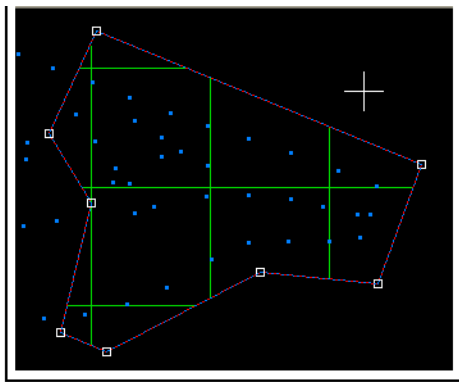

Figure 7-12. Select Polyline and Define Boundary
2. Click **Plane ▶ Define plane boundary ▶ By selected closed polyline**. 3D-Office calculates a plane surface and applies a boundary based on the chosen polygon (Figure 7-12).